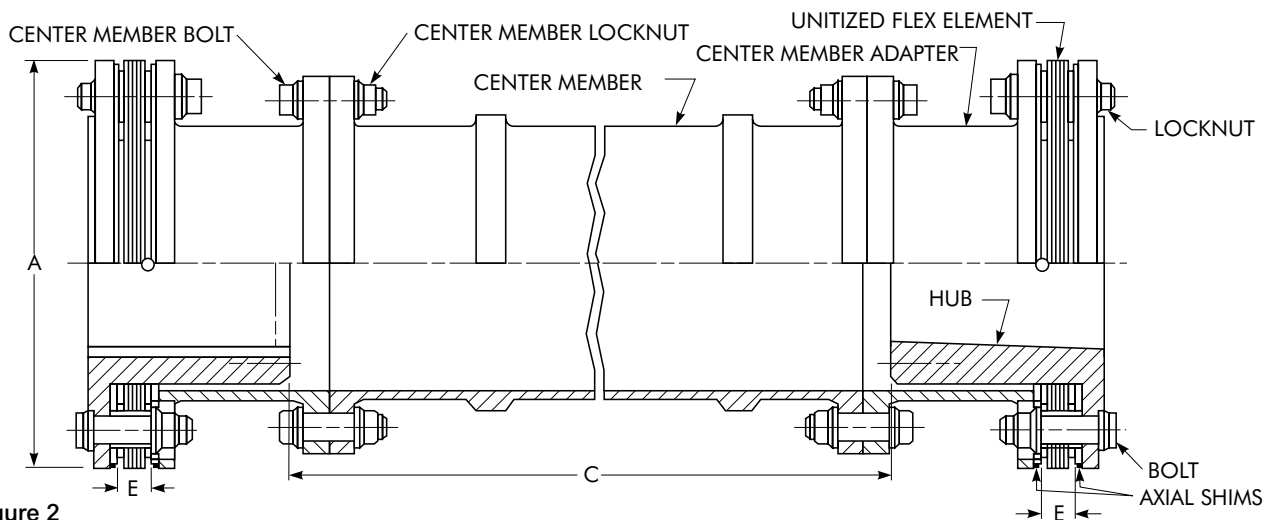

Figure 2
B. Reduced Moment Design — See figure 2 and/or Assembly Drawing.